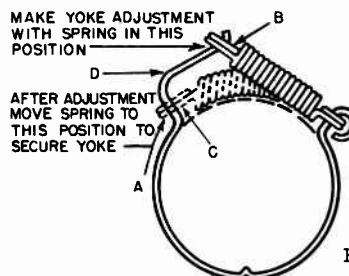

FIGURE 2. YOKE CLAMP
**yoke Position**--The yoke is secured to the neck of the picture tube by a "U" shaped clamp and spring, Figure 2. To adjust the yoke for picture tilt, loosen the clamp by squeezing points C & D with long nose pliers until the eye of the spring slides over the bend in the clamp. The yoke can now be adjusted for correct picture tilt and is squared in the mask. To secure the yoke, the pliers are used in the same manner between points A & B until the spring eye slides over the bend to its clamp-position.